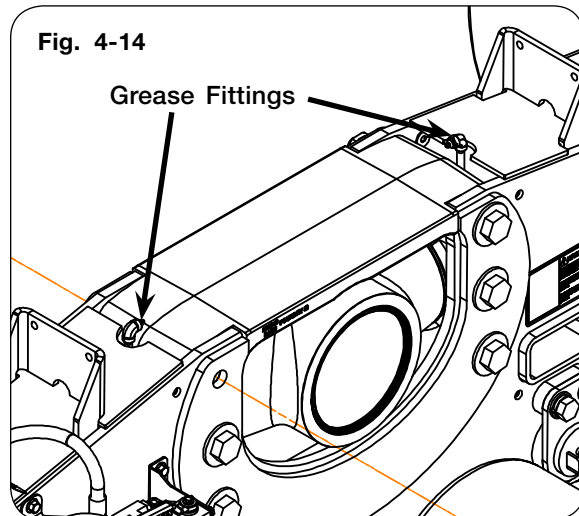

Fig. 4-14
14. Place the new trunnion assembly into track frame with the grease fittings facing up as shown in Fig. 4-14.